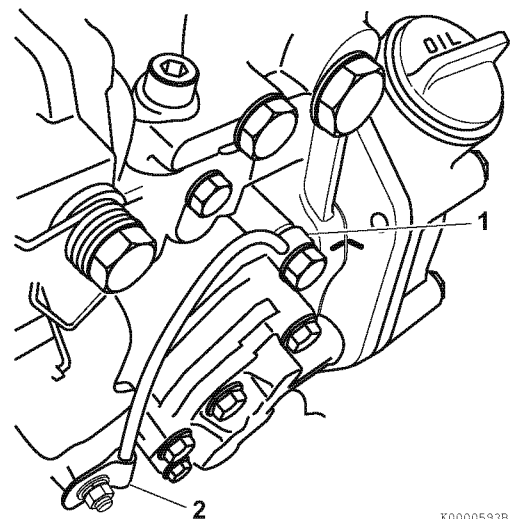

Figure 7-26
7. Reconnect the lube oil line (1, Figure 7-26) and clamp (2, Figure 7-26).